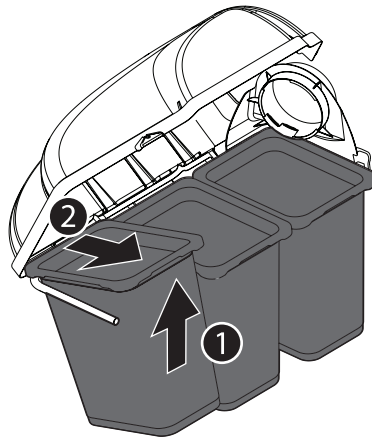

Figure 30
3. Remove the three bag assemblies from the bag support brackets by lifting the front edge up first, and then sliding the back edge out and up until it is clear of the frame. See Figure 30.